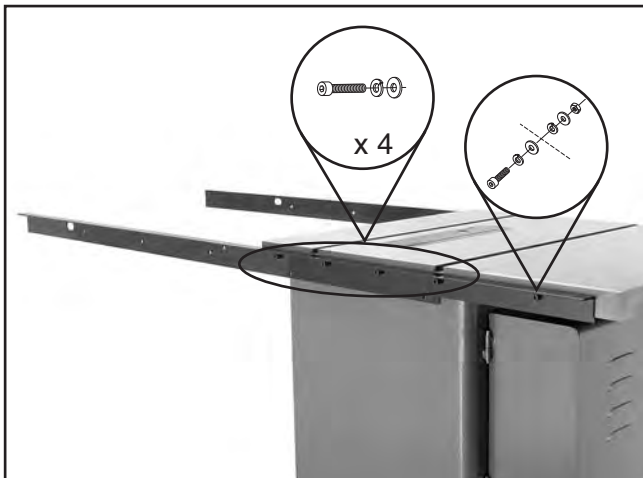

Figure 14. Rear rail installed.
2. Fasten the 79" rear rail to the table with four M8-1.25 x 25 cap screws, 8mm lock washers, and 8mm flat washers, as shown in **Figure 14**. Secure the left side of the rail to the table with one M8-1.25 x 25 cap screw, two 8mm flat washers, two 8mm lock washers, and one M8-1.25 hex nut.